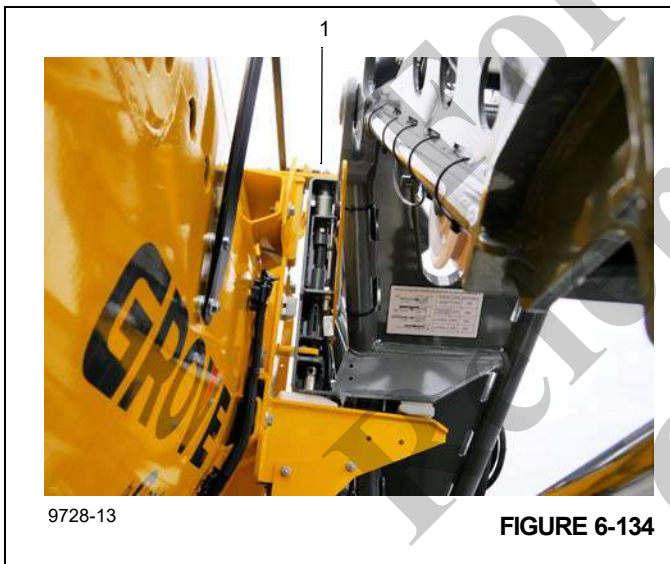

FIGURE 6-134
7. Verify pin #2 (1), (Figure 6-134) has engaged the extension.
If pin #2 (1), (Figure 6-134) does not engage the 35 ft (10.5 m) extension, **STOP**. DO NOT continue to stow the boom extensions until pin #2 has properly engaged the extension.